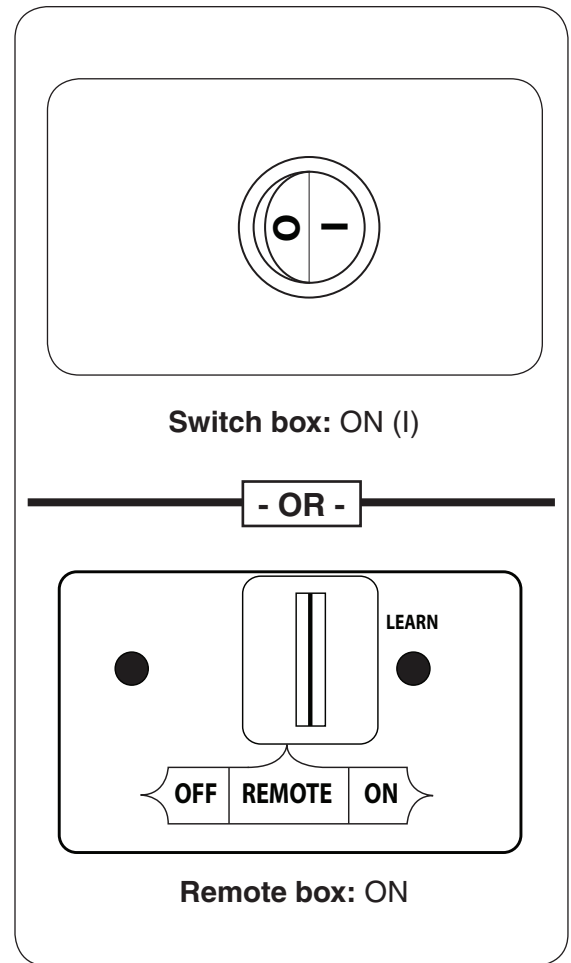

Fig. 29-1 Manual lighting
1. **Switch Box Models:** Locate the ON/OFF switch at the front of the switch box. Press the switch to the **ON (I)** position. See Fig. 29-1.
**Remote Box Models:** Locate the 3-position switch on the remote receiver (see Fig. 29-1), and slide the switch to the **ON** position.